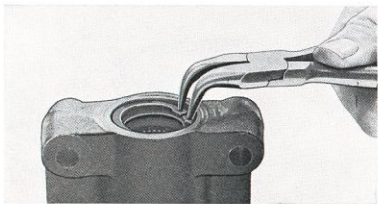

Fig. 6-80. Removing circlip
7. With a screwdriver remove the upper sealing ring (9) in the housing. The ring should be demolished but carefully in order not to damage the bearing in the housing. Turn the housing and remove the circlip (1), see Fig. 6-80. Remove the sealing ring (2) with a chisel. The retainer (3) for the needle bearings should only be removed if the bearing is to be replaced, see under "Inspecting".